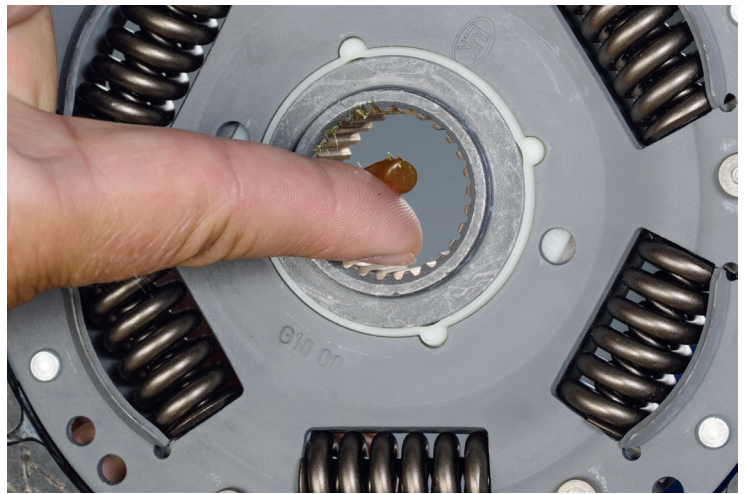

Figure 1: Greasing the hub splines
- Apply the equivalent of one drop of grease (Figure 1) evenly to the hub splines of the clutch disc and to the spines of the transmission input shaft